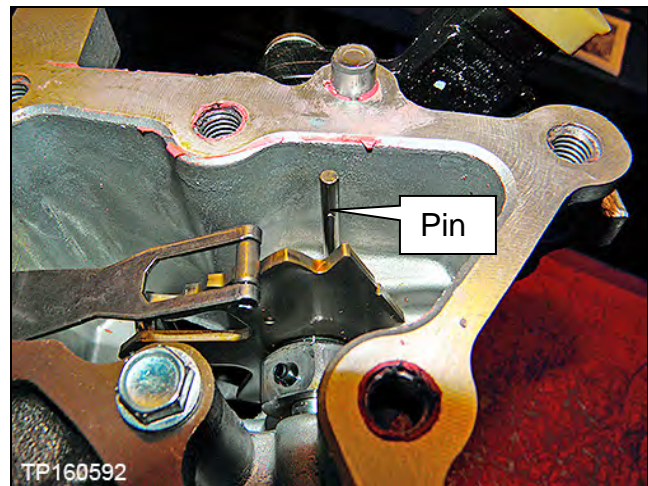

Figure 15l
14. Confirm the pin (Figure 15l) is located in the CVT case prior to installation of the converter housing.